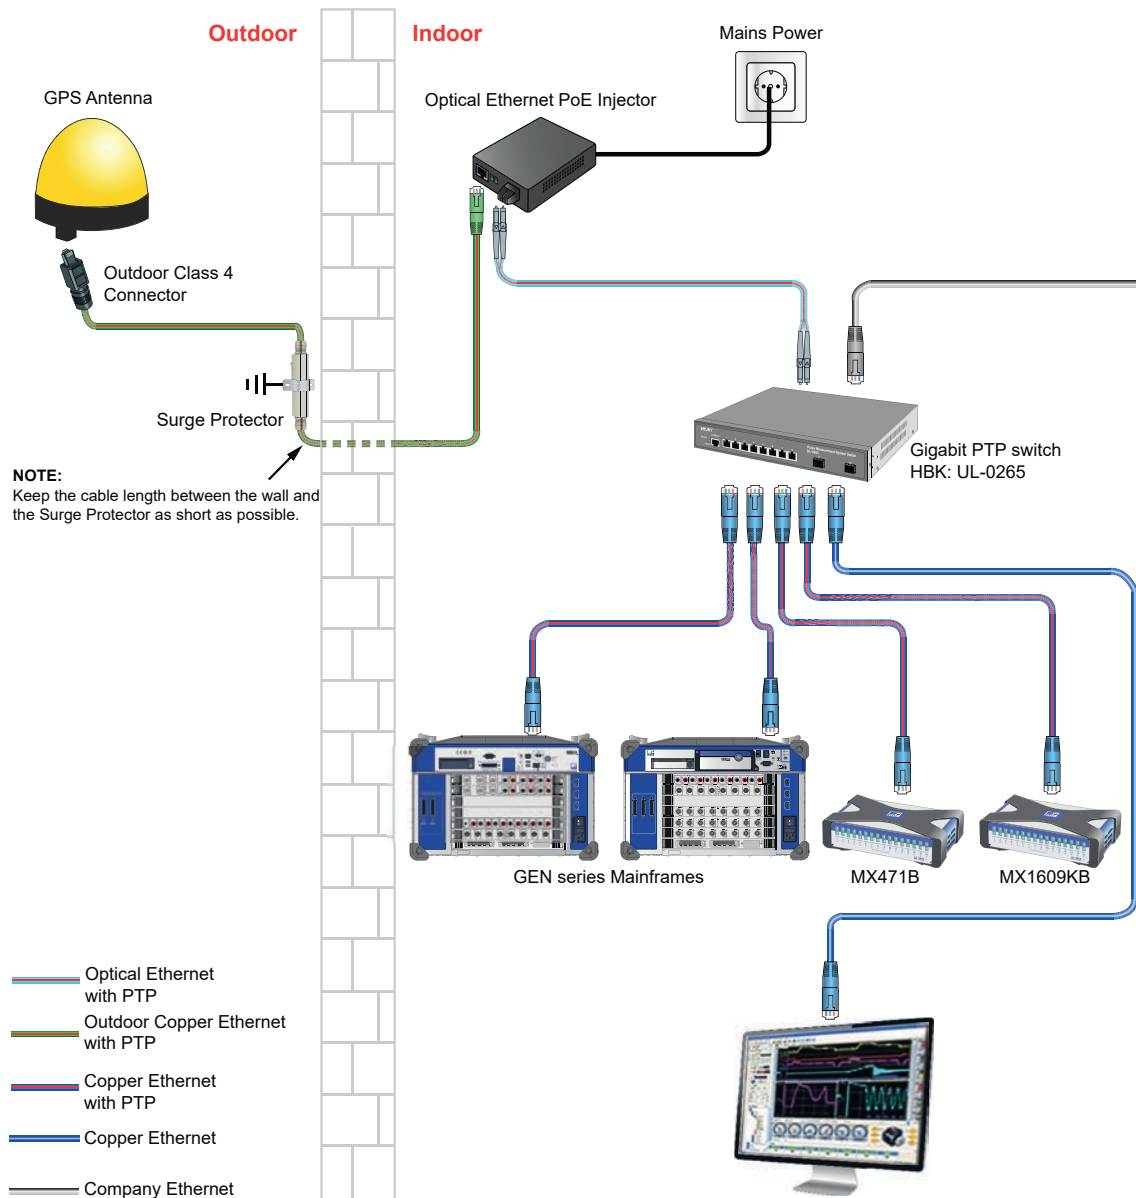

Figure 14.30: GPS setup for tethered mainframes and QuantumX
- 7** After finishing these steps the G002B option is fully installed and operational (see also Figure 14.30).